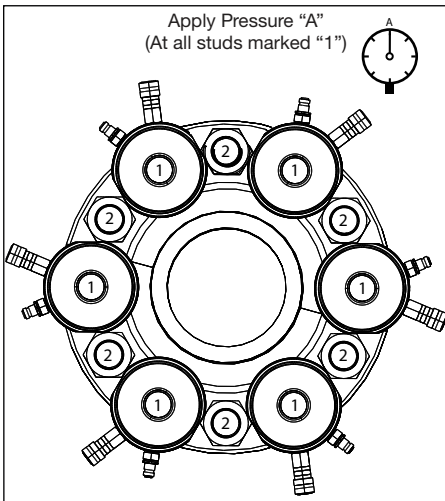

FIGURE 12, TENSIONER ARRANGEMENT, FIRST PASS - TYPICAL (50% TENSIONER COVERAGE)
3. Assemble the tensioner(s) to the studs marked “1” and connect the hydraulic hoses. See Figure 12 for typical tensioner arrangement. Also refer to sections 6.1 and 6.2 for additional tensioner installation and hook-up instructions.